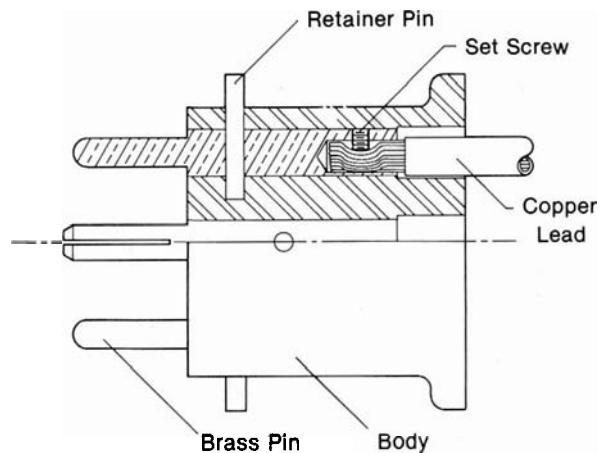

Figure 1
To assemble and wire the octopus plug, proceed as follows. See *Figure 1*.
6. Insert the retainer pin, and tap it firmly into place. The retainer pin will protrude approximately 3/8" when fully seated. See *Figure 1*.